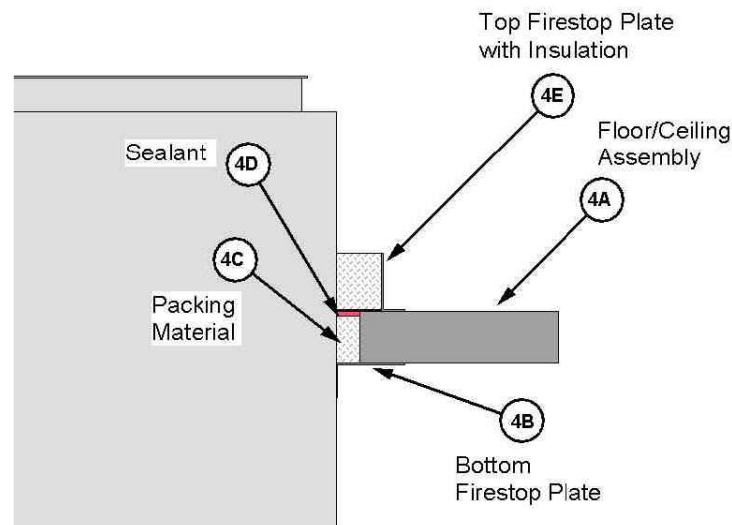

Figure 6. Floor/Ceiling Firestop
4. **FLOOR/CEILING PENETRATION FIRESTOP:** When required to penetrate a fire-rated floor/ceiling assembly, install the firestop system described in Items 4A to 4E (reference Figure 6).